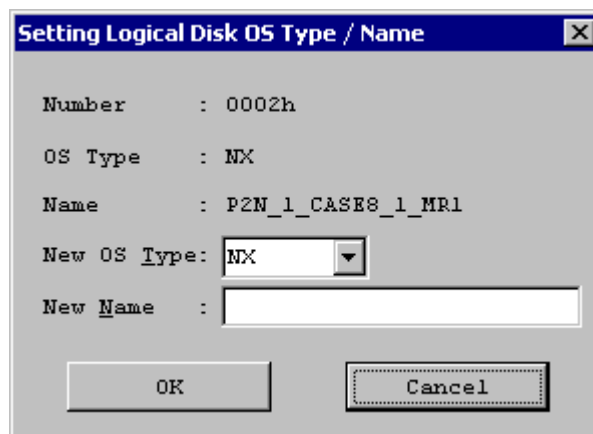

Figure 3-26 Setup of Logical Disk OS Type/Name Dialog
- (a) Select (left-click on) the logical disk (for which you want to set an OS type and name) in the configuration information display area (or the information list display area), right-click on it, and select [Settings] (or [Operation]) on the menu bar → [Logical Disk Name Settings]. The Setup of Logical Disk OS Type/Name dialog box (Figure 3-26) appears.